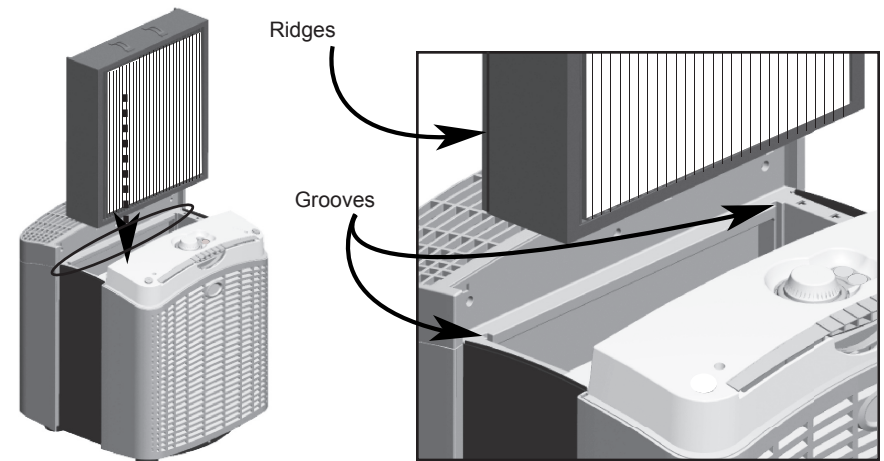

Fig. 8 - Main Filter Installation
2. Install a new Main Filter. Make certain the ridges on the Main Filter line up with the Grooves in the Base. See Figure 8.